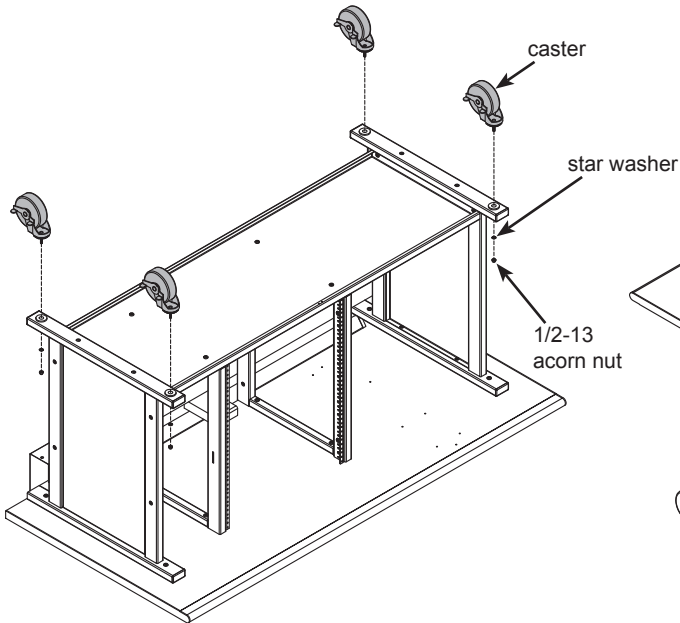

Figure 5
- Place a star washer onto the stem on the opposite side of the leg and thread a 1/2-13 acorn nut over each washer. **Figure 5.**